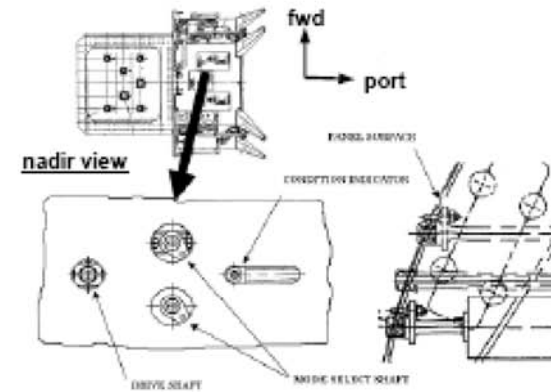

Figure 4 - EVA I/F for Umbilical Mechanism
D. Failure to fully remove TBA Bearing Package	<p>1. Retrieve pry bar (Staging Bag), insert between clamp shoe and mount bolt (see figure 4), and pry bearing package away from mount package</p>  <p>NOTE Tape not on flight pry bar</p> <p>Mount Bolt 3</p> <p>Clamp Shoe</p> <p>Location of draw bolt 2</p> <p>Figure 4. - Pry Bearing Package Away</p> <p>2. If no joy, reinstall TBA bolts that were partially or fully removed starting with Bolt 2:</p> <ol style="list-style-type: none"> <li>PGT [A3 (4.8), CW2, 30.5] 6-Ext 7/16 Rotate Bolt 2, ~13 turns</li> <li>For STA TBA: PGT [B1 (12.0), CW2, 30.5] 6-Ext 7/16 For Flight TBA: PGT[A5 (7.0), CW2, 30.5] 6-Ext 7/16 Rotate Bolt 1, ~7 turns</li> <li>Torque mount package PGT [A2 (3.8), CW2, 30.5] 6-Ext 7/16 Rotate Bolt 3, ~ 6 turns</li> </ol>